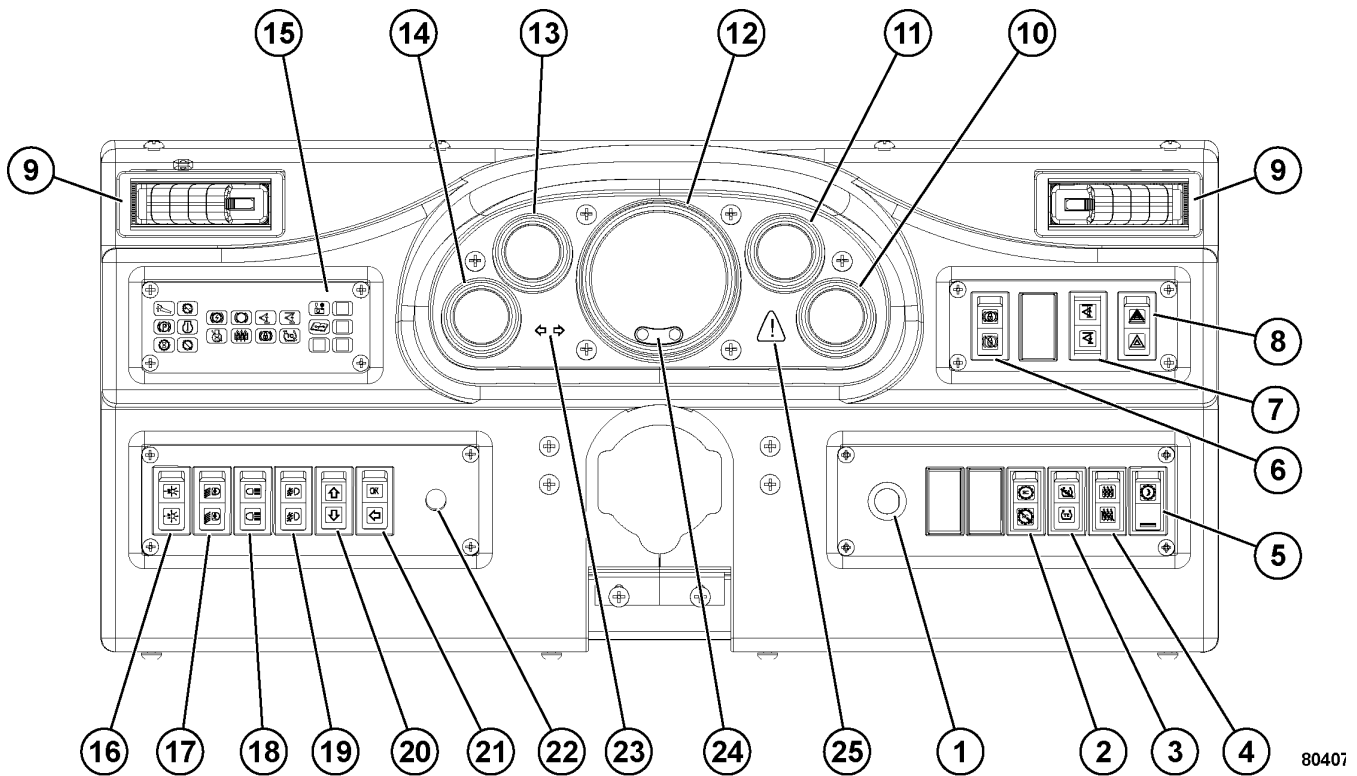

FIGURE 32-8. INSTRUMENT PANEL GAUGES, INDICATORS AND CONTROLS
Key switch (1, Figure 32-8) is a four-position (ACC, OFF, RUN, START) switch. The ACC position is not currently used.
2. After the engine has started, place rest switch (5, Figure 32-8) in the OFF position. For more information, refer to "Rest Switch" on the next page.
Speed control switch (2, Figure 32-8) is a rocker switch. When in the ON position, the speed control lever on the steering column can be used as a "cruise control" function.
Traction control switch (3, Figure 32-8) is a rocker switch. When in the OFF position, the traction control feature is turned off. This can be used in dry operating conditions when the chance of slipping or sliding is minimal so that the drive system will always put maximum power to the ground.
Retarding grid drier switch (4, Figure 32-8) is a rocker switch. When in the ON position, this feature is used to dry the retarding grids when starting the truck after it has been washed or parked in rainy conditions. This will minimize the possibility of activating a ground fault due to water in the grids. It can also be used to keep the engine warm in cold conditions because it puts a small amount of load against the engine.
Rest switch (5, Figure 32-8) is a rocker switch with a locking device. A safety tab on the switch must be pushed to unlock the switch before the top of the switch can be depressed to activate the rest mode.
Wheel brake lock switch (6, Figure 32-8) should be used with engine running for dumping and loading operations only. The brake lock switch actuates the hydraulic brake system which locks the **rear wheel service brakes only**. When pulling into shovel or dump area, stop the truck using the foot-operated service brake pedal. When truck is completely stopped and in loading position, move the directional control lever to NETURAL, then apply the brake lock by pressing the top of the rocker switch. To release the brake, press the bottom of the rocker switch.
Pantograph switch (7, Figure 32-8) controls the position of the pantograph. The switch will only operate when the directional control lever is in the "T" (trolley) position. Pressing the top side of the rocker switch will raise the pantograph. Pressing the lower side of the switch will lower the pantograph. Ensure truck is in position under the wires before raising the pantograph.
Hazard warning light switch (8, Figure 32-8) flashes all the turn signal lights. Pressing the bottom side of the rocker switch activates these lights. Pressing the top side of the rocker switch turns these lights off.
Heater/air conditioner vents (9, Figure 32-8) are may be directed by the operator to provide the most comfortable cabin air flow.
Fuel level gauge (10, Figure 32-8) indicates how much diesel fuel is in the fuel tank. When there is only 10% of total fuel tank capacity remaining, the amber low fuel level indicator on the gauge will illuminate.
Hydraulic oil temperature gauge (11, Figure 32-8) indicates the oil temperature in the hydraulic tank. There are two colored bands: green and red.
Speedometer/digital display (12, Figure 32-8) has several functions:
Coolant temperature gauge (13, Figure 32-8) indicates the temperature of the coolant in the engine cooling system. The temperature range after engine warm-up and a truck operating under normal conditions should be 85° to 97°C (185° to 207°F).
Drive system temperature gauge (14, Figure 32-8) indicates the status of the highest measured temperature range in the drive system.
Status indicator light panel (15, Figure 32-8) contains an array of indicator lights to provide the operator with important status messages concerning selected truck functions. Refer to Status Indicator Lights later in this section for a detailed description of these indicators.
The instrument panel lights, clearance lights, and the headlights are controlled by this three-position rocker type switch (16, Figure 32-8). OFF is selected by pressing the bottom of the switch. Press the top of the switch until it reaches the first detent to select the panel lights, clearance lights and tail lights only. Press the top of the switch again until it reaches the second detent to select headlights, panel lights, clearance lights and tail lights.
Ladder light switch (17, Figure 32-8) turns the ladder lights on or off after or before using ladder. Pressing the top of the rocker switch turns the lights on. Pressing the bottom of the switch turns the lights off. Another switch is mounted at the front left of truck near the base of ladder.
Backup light switch (18, Figure 32-8) allows the backup lights to be turned on for added visibility and safety when the directional control lever is not in the REVERSE position. When the switch is in the ON position, the backup light indicator on the instrument panel will be illuminated.
Pressing the top of fog light switch (19, Figure 32-8) turns the lights on. Pressing the bottom of the switch turns the lights off.
Mode switches (20) and (21, Figure 32-8) are two-way momentary rocker switches. The arrows are used to toggle through the different options and messages on the digital display. The OK position is used to acknowledge and clear warnings and faults and set certain Payload Meter III settings.
Panel illumination light dimmer switch (22, Figure 32-8) is a rheostat which allows the operator to vary the brightness of the instruments and panel illumination lights.
Indicators (23, Figure 32-8) illuminate to indicate that the right or left turn signals are operating when the turn signal lever on the steering column is moved upward or downward. Moving the lever to its center position will turn the indicator off.
Cold ambient operating temperatures may affect the contrast of the digital display. If necessary, use buttons (24, Figure 32-8) to increase or decrease the contrast of the digital display to make it easier to read.
Red warning light (25, Figure 32-8) will come on to indicate that a truck function requires **immediate action** by the operator. Safely stop the truck and notify maintenance personnel. A warning message will appear on the digital display.